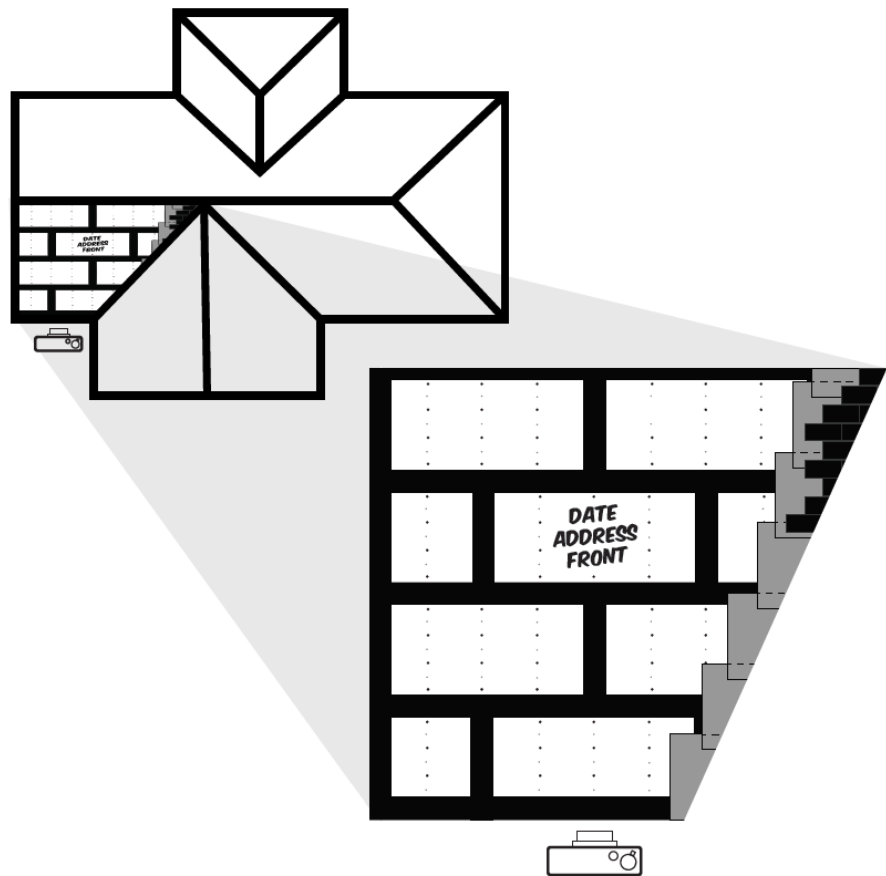

Figure 0-3. Labeling of roof deck to identify project and photo location.
- Must have the following clearly visible: date, address or FORTIFIED ID, location (e.g., Front, Rear, Left and Right). See Fig. 0-3.